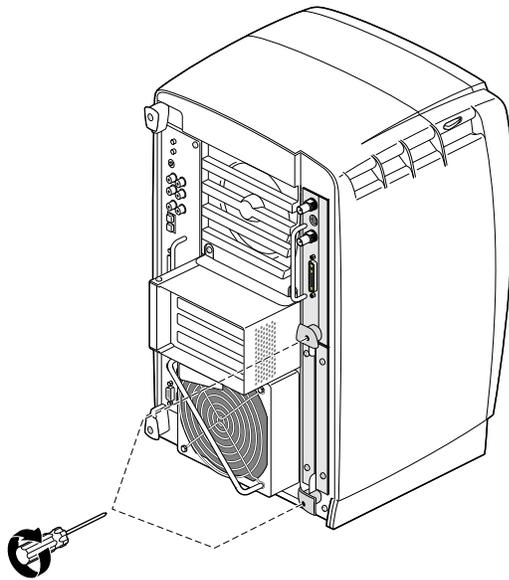

Figure 12 Tightening the XIO Tri-Module Captive Screws
6. Tighten the captive screws in the sliding handles, as shown in Figure 12.